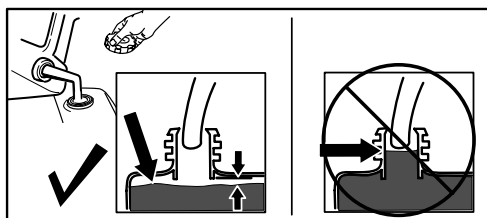

Figure 14
Do not fill above the bottom of the fuel tank neck (Figure 14).
- Remove an obstruction from the discharge chute; refer to Clearing a Clogged Discharge Chute \(page 16\). Use the snow-cleanout tool (Figure 14), not your hands, to remove an obstruction from the discharge chute.